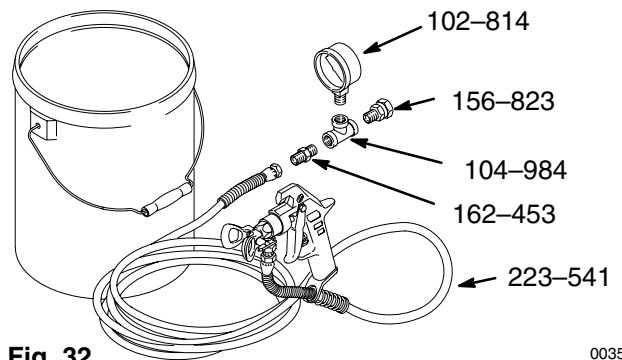

Fig. 32
2. Set up the system as shown in Fig. 32.